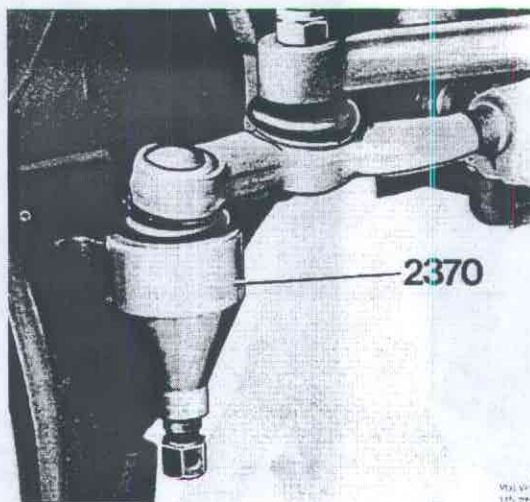

Fig. 46-25. Removing the ball joint
3. Drain the oil from the differential carrier. Remove the nut on the ball joints for the steering rods. Disconnect the ball joint from the steering arm with 2370, Fig. 46-25.